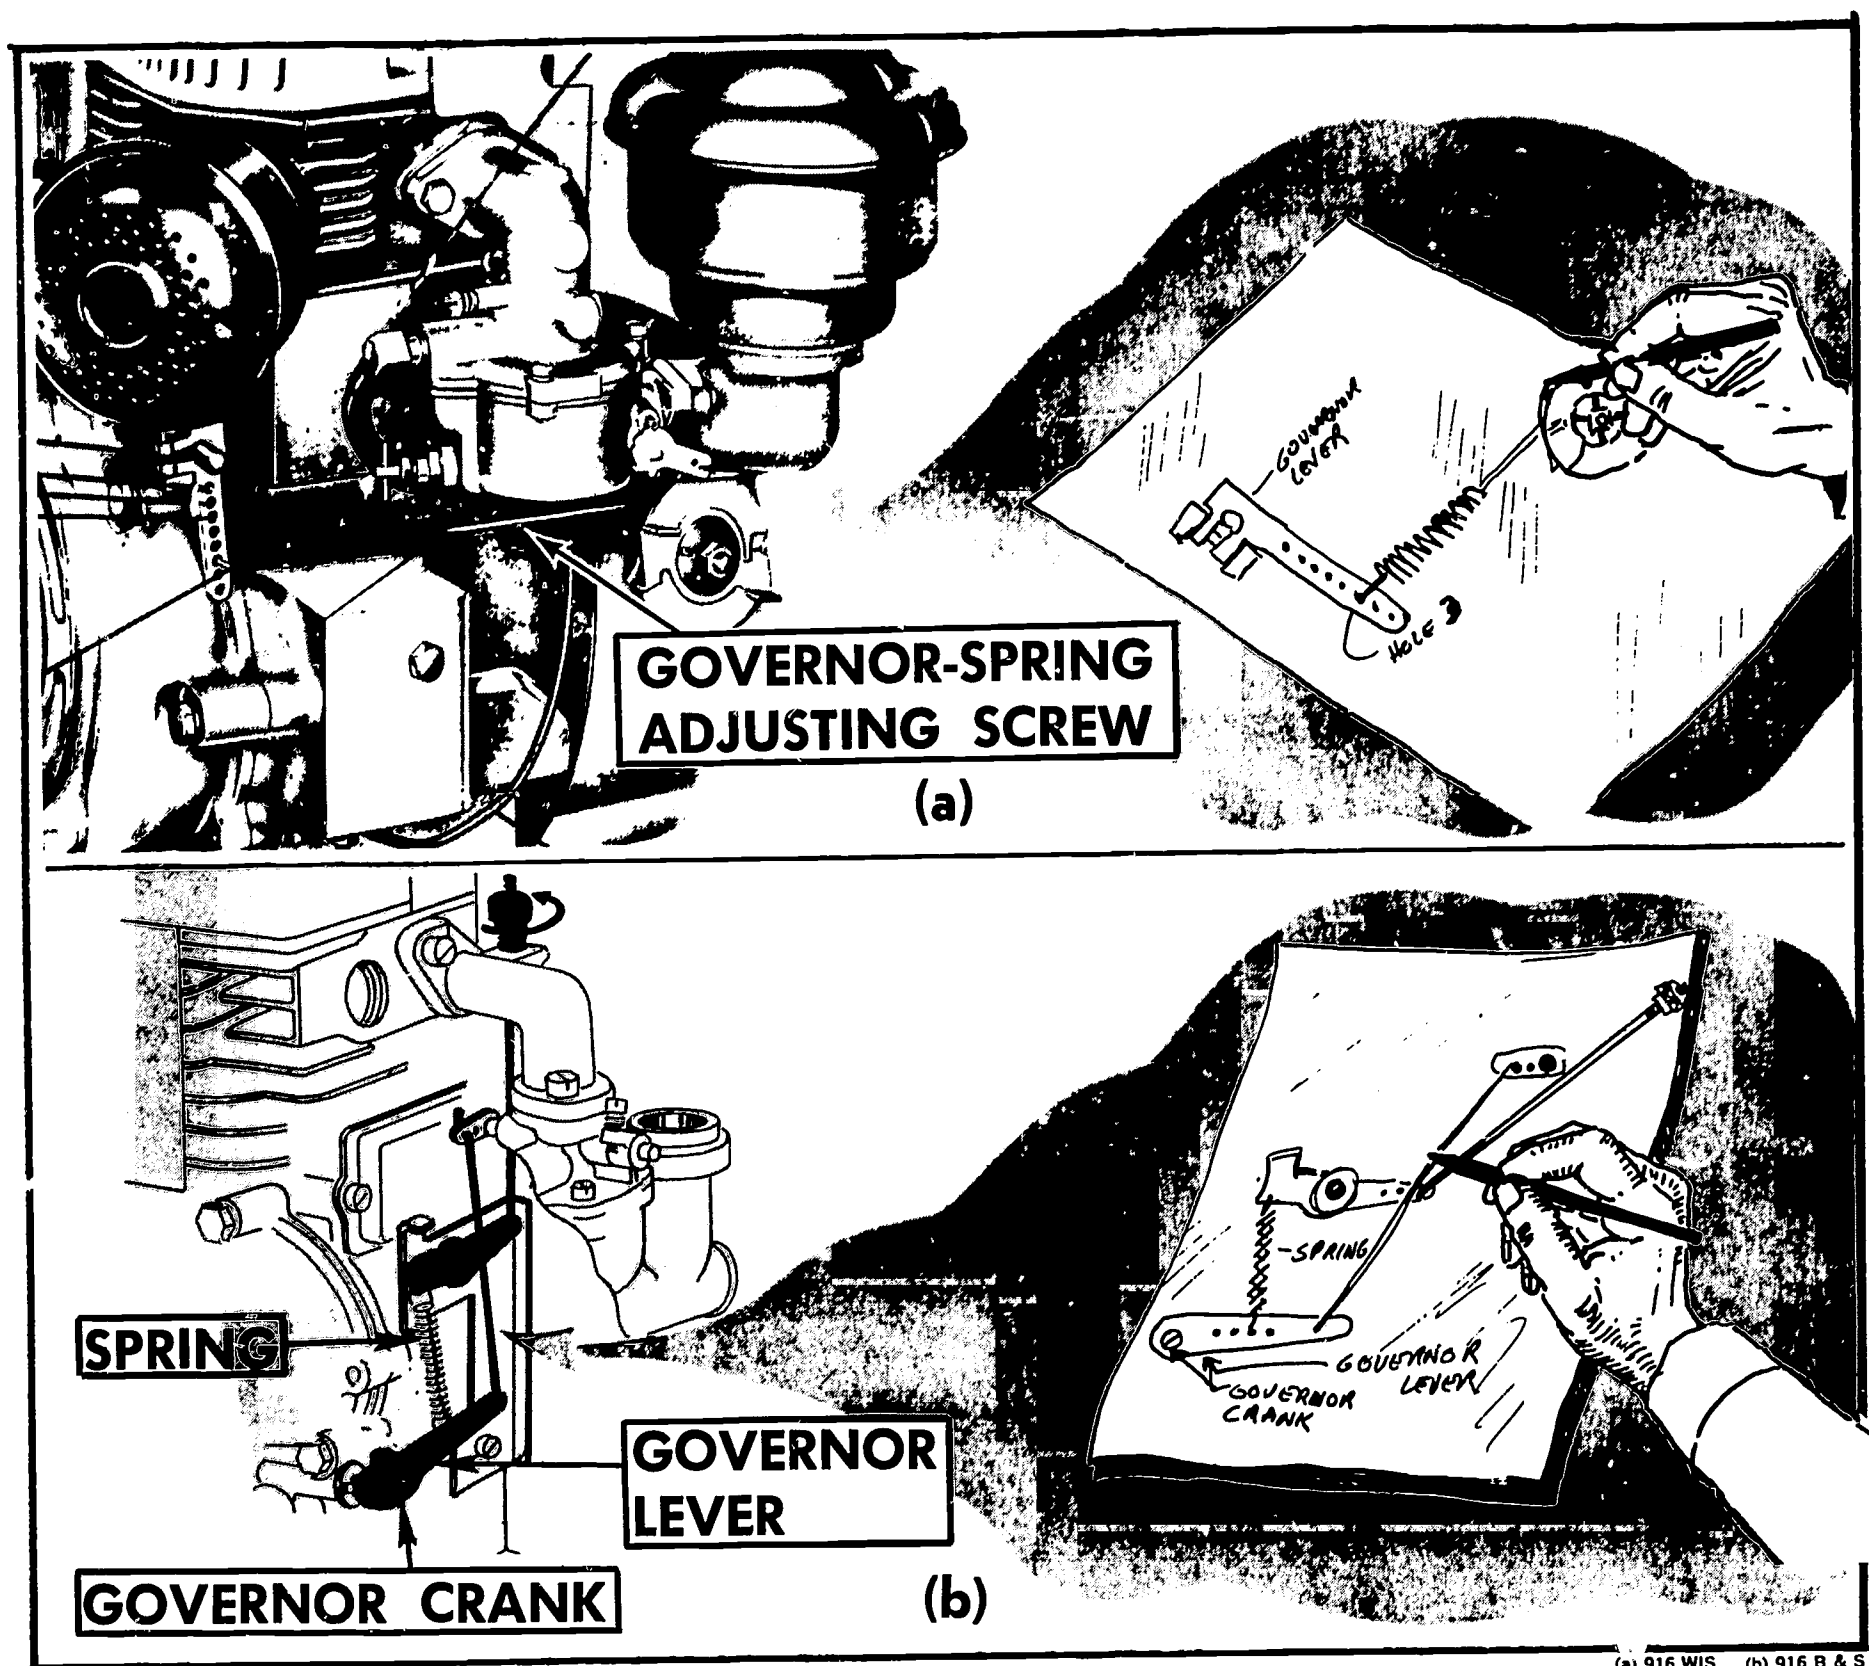

FIGURE 134. Make a note of how your governor and throttle are connected so that you can reconnect them properly. (a) Indicate at what point the spring attaches
3. *Disconnect governor linkage (Figure 134).*